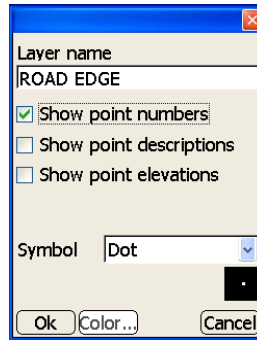

Figure 4-60. New Layer Parameters
- New Layer – tap to add a new layer to the Point file. After entering the layer's parameters, press **Ok** to save the information (Figure 4-60 on page 4-41).